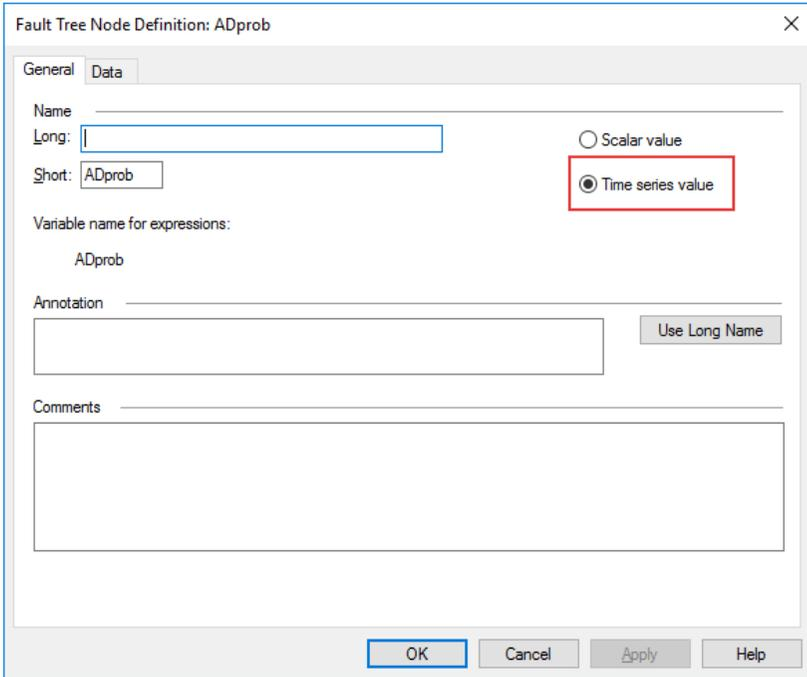

Figure 8-2. Time Series Value Selected within the General Tab of Node Definition Dialog for ADprob
- ⇒ Select the General tab. Now that intervals have been defined the Time series value radio button is active, select it as shown in Figure 8-2.